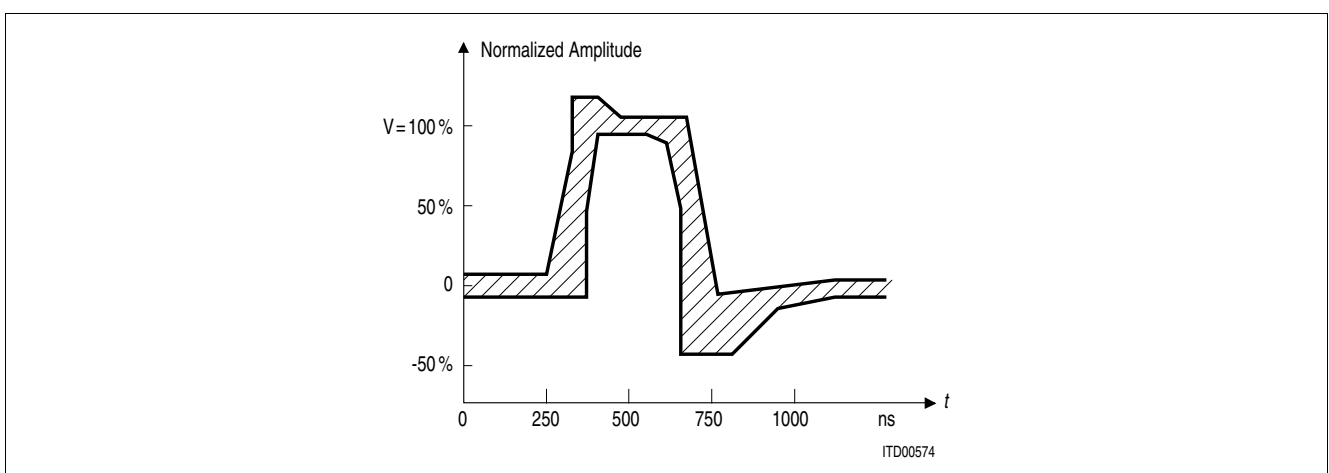

Figure 64 T1 Pulse Shape at the Cross Connect Point
- For T1: FCC68; ANSI T1. 403 1999, figure 4; ITU-T G703 11/2001, figure 10 (for different cable lengths), see Figure 64. For measurement configuration were  $R_{load} = 100 \Omega$  see Figure 40.
With the given values in Table 29 or Table 31, for transformer ratio: 1 : 2.4, cable type AWG24 and with  $R_{load} = 100 \Omega$  the pulse mask according to ITU-T G703 11/2001, figure 10, see Figure 64, is fulfilled.